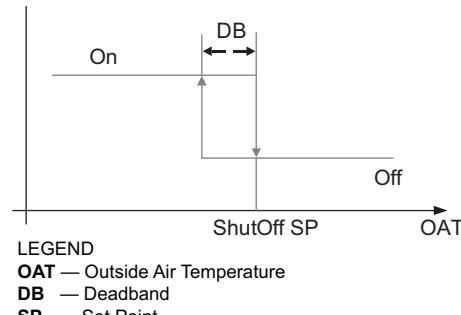

Fig. 79 — Hysteresis Settings
Hysteresis setting (DB) defaults to 2°F (−17°C). See Fig. 79.